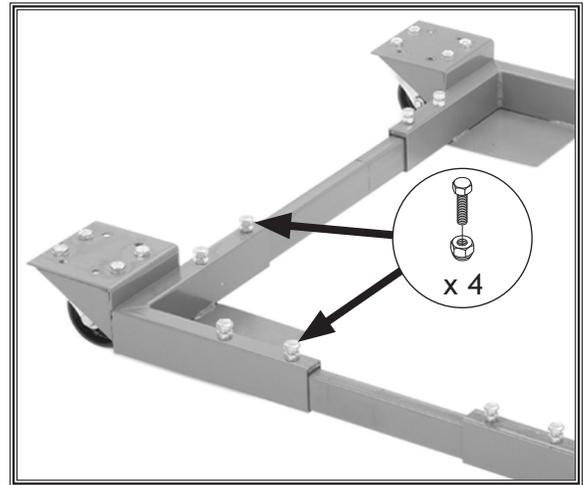

Figure 11. Rails secured to fixed corner brackets.
8. Secure each corner bracket to two rails with (4) M8-1.25 x 16 hex bolts, and 8mm lock nuts, as shown in **Figure 11**.
Each side rail-to-corner bracket connection must have a minimum of two hex bolts installed, making a total of four bolts at each corner, as shown in **Figure 11**. Do not load a machine onto the base until all of these bolts have been installed and tightened. Loading a machine onto the base before completing assembly can result in the machine falling or tipping over, resulting in serious personal injury.